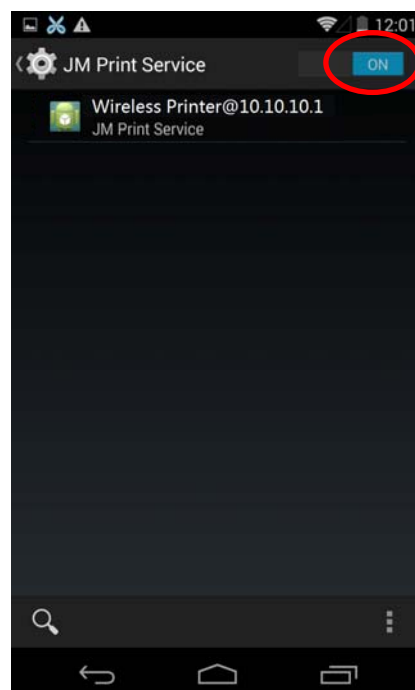

Figure 24
3.5 After turning on the "JM Print Service", it will search automatically and show the printer if found, as shown in Figure 24.